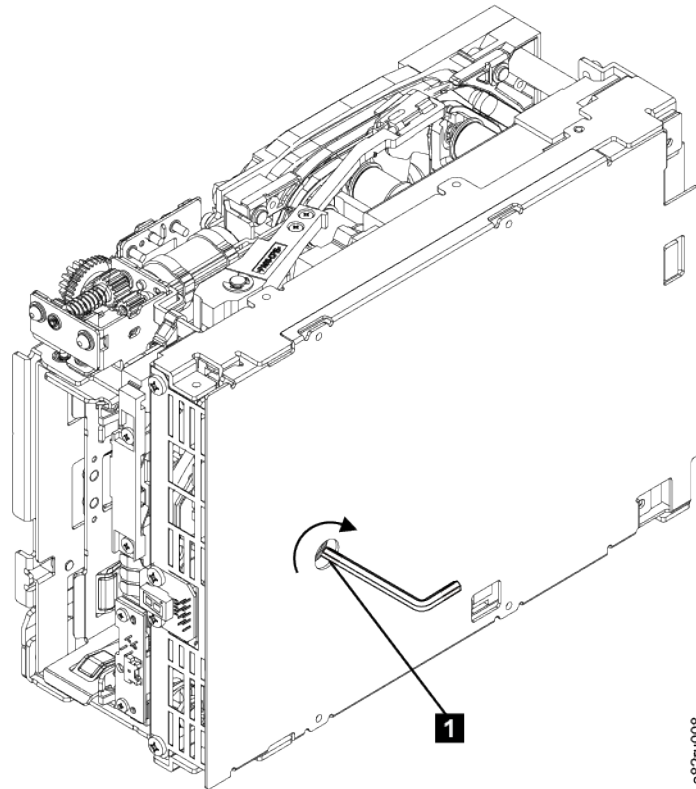

Figure 120. The hex wrench rewinds tape into cartridge
6. From the bottom of the drive, locate the access hole (**1** in Figure 120 on page 251) in the bottom cover. Insert a 2.5 mm offset hex wrench through the bottom cover access hole and into the reel motor axle. Begin spooling tape back into the cartridge by turning the hex wrench clockwise.